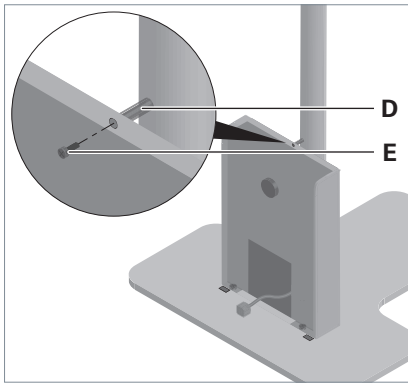

Fig. 3: Mounting the sleeve.
- ▶ Hold the sleeve **D** between the supply unit and the column and fasten the supply unit using the delivered screw **E**, see Fig. 3.